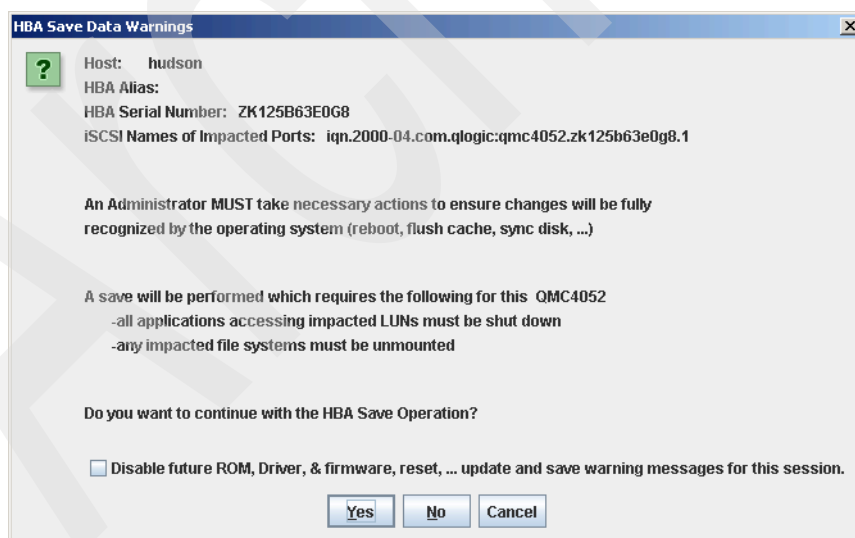

Figure 21-65 SANsurfer - Save data warning
- Enter the SANsurfer password and click **OK**. Confirm the warning by clicking **Yes**, as shown in Figure 21-65.